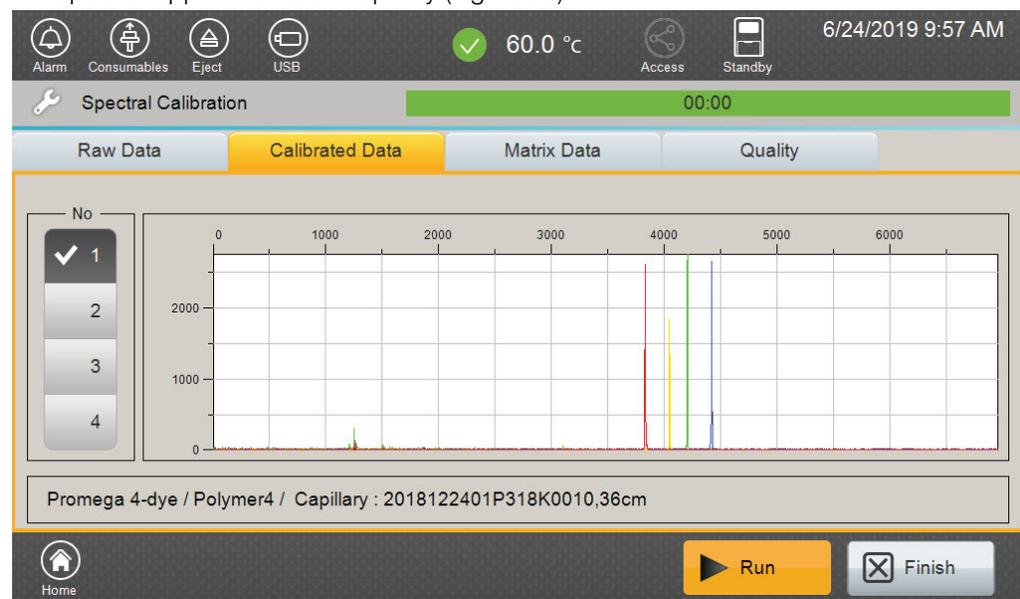

Figure 39. Spectral Calibration 'Calibrated Data Tab' screen.
2. The 'Calibrated Data' tab can be used to view the matrix peaks with both baseline and spectral applied for each capillary (Figure 39).